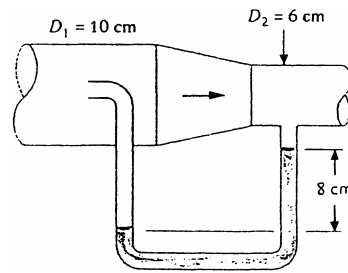

Fig. P3.158
3.158 In Fig. P3.158 the flowing fluid is CO₂ at 20°C. Neglect losses. If $p_1 = 170$ kPa and the manometer fluid is Meriam red oil (SG = 0.827), estimate (a) p_2 and (b) the gas flow rate in m³/h.